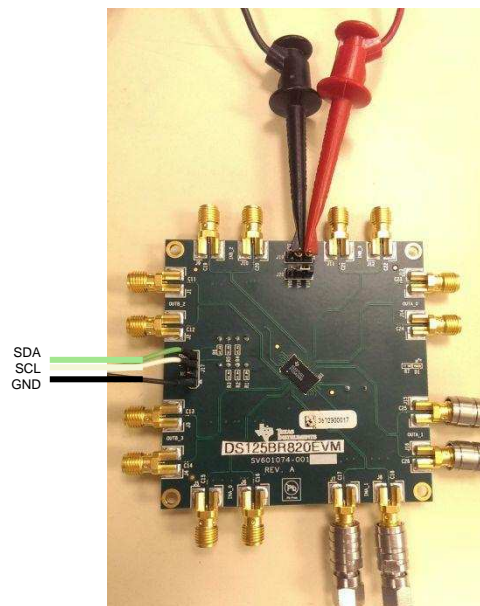

Figure 31. SMBus EVM Pin Connections Example
8. Plug the pin connector cable into the SMBus lines of the EVM. The connection to the DS125BR820EVM is shown in Figure 31.